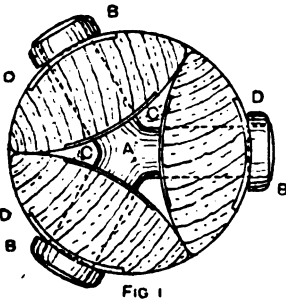

FIG. 1
**Making Leather Case for Croquet Mallet.**—The leather for a croquet mallet case need not be very stout, but it must not be flimsy, unless it is backed with something, or it will wring in the sewing, and the handle portion will be unsightly. The leather used for the straps of bags, etc., will be suitable. Before cutting the leather, cut from stout cartridge paper a pattern to the shape of the mallet. Fig. 1 is the cover for the handle, which is 3 ft. long and 5 in. wide; Fig. 2 shows the cover for the mallet, which is 12½ in. long by 13 in. wide; while Fig. 3 is a
pattern for the two ends, which is 3½ in. wide by 4 in. deep. Two small arcs are cut out of Fig. 1, as A, B, so as to fit a hole 1½ in. diameter cut in Fig. 2 after it is curved to the outline of Fig. 3. In Fig. 2, 1½ in. is marked off at one side and the two corners are cut off, as C and D. The circular hole is then cut out, the centre being about ½ in. from the left-hand side, so as to be in the centre of the case when finished. In Fig. 3, 1 in. is allowed on top for a lap. The pieces E and F (Figs. 2 and 3) will form themselves into flaps if a piece is grooved out along the dotted line. To get the piece, Fig. 3, a good shape, cut an oblong piece to the measurements given above and fold it down the centre, and then cut off the corners G and H. Fig. 1 is now sewn into cylindrical form so as to take the handle, the circular piece, 1½ in. diameter, as cut out of Fig. 2, being sewn to one end, the other end, with curves A and B (Fig. 1), being fitted into the socket hole at J (Fig. 4), and the straps and buckles sewn on at K and L. To give a good appearance to the case when finished, a little plush may be fixed in with glue paste; if desired, a cheaper lining can be used.
**Making Three-legged Folding Fishing Stool.**—Below are instructions on making an angler's three-legged folding stool. Commence by marking out the section full size as shown by Fig. 1. Make a three-legged bolt out of  $\frac{1}{2}$ -in. iron, as shown at A (Fig. 1). Thread the ends, and fit them with circular brass nuts B,  $\frac{1}{4}$  in. thick, and square washers C and D. Each washer must be drilled in the centre and the four corners. A hole must be drilled to take a No. 4 screw. Three pieces of hickory